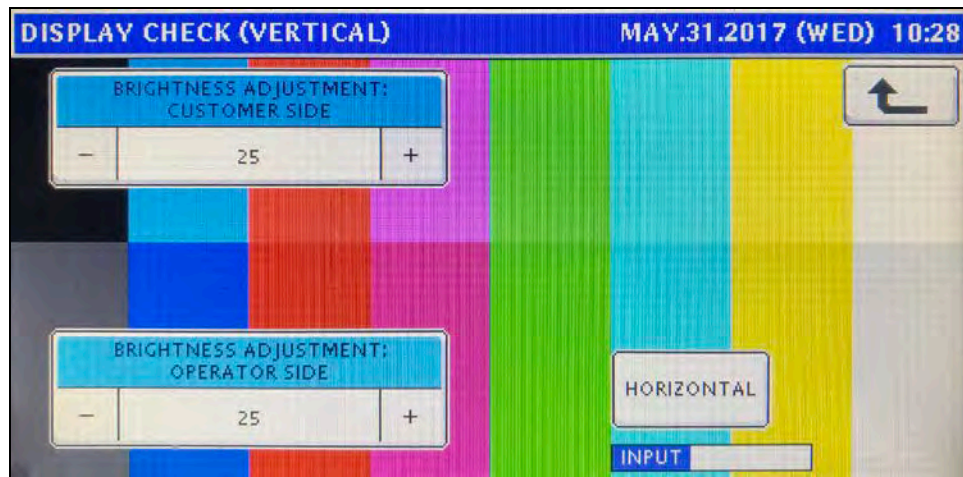

Figure 37. Display Brightness Adjustment Screen
26. Press the "+" and "-" for both customer and operator displays to set as 25. Press the **RETURN ARROW** (top right) to exit. See Figure 37.